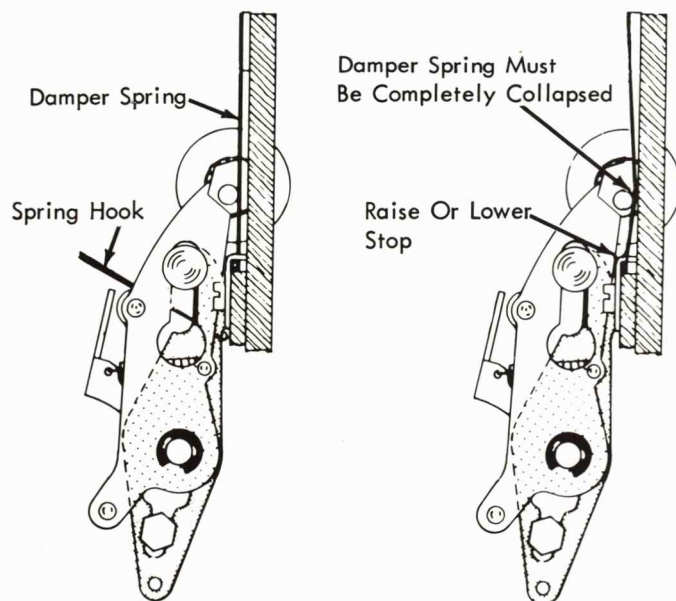

FIGURE 82. Damper Spring Stop
- d. Damper spring stop - with the typehead removed, raise the stop so that when a lower case -5 character is half-cycled the damper spring will just collapse against the sideframe. Check by pulling the compensator arm away from the sideframe with a spring hook and then allow it to go back in slowly (Fig. 82).